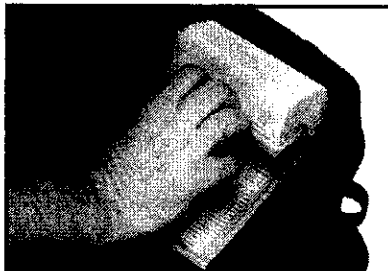

Fig. 8
5. Remove the filter (see Fig. 8) and tap it to remove any loose dirt.